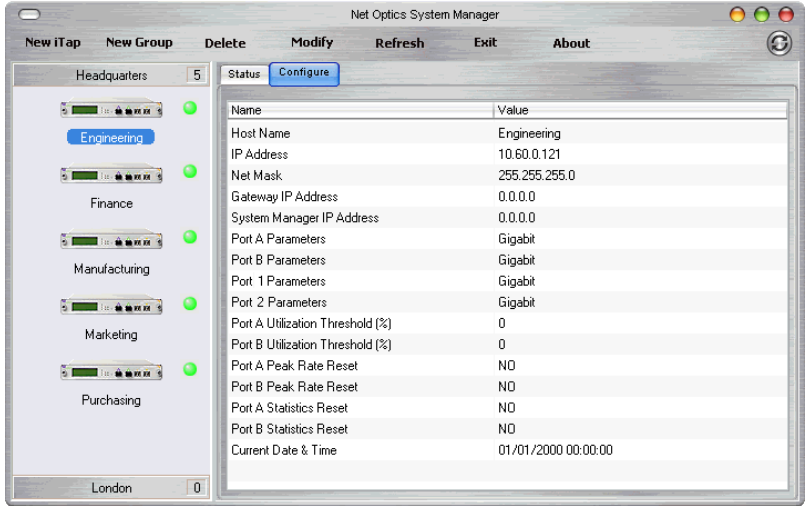

Figure 30: iTap Configure Tab
1. Click on the icon of the iTap you want to configure and click the **Configure** tab shown in Figure 30.